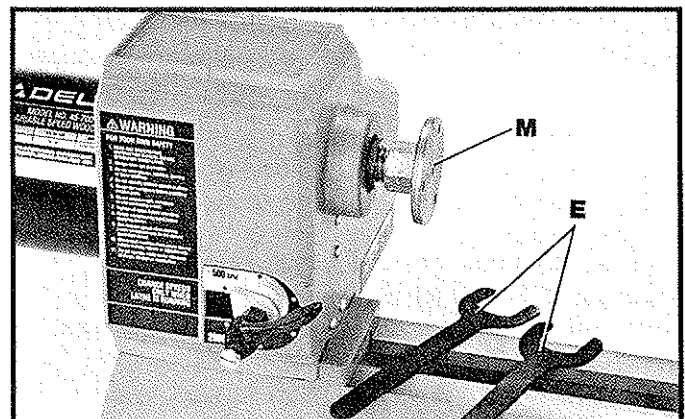

Fig. 7
6. Using the two spindle wrenches (E) Fig. 7, remove faceplate (M) from headstock spindle.